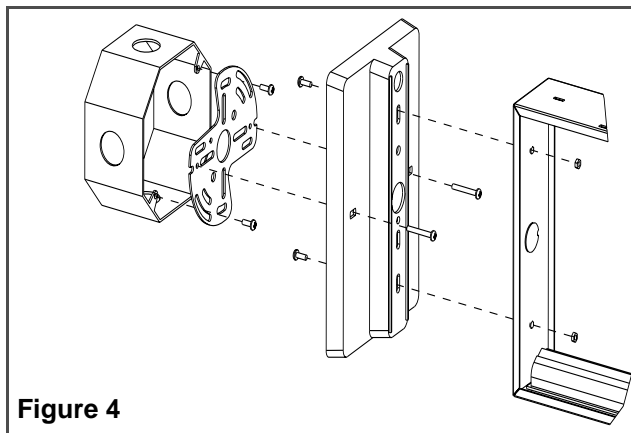

Figure 4
- d. Fasten the canopy to the exit using #8-32 x 3/8" screws and kep nuts provided (See Fig. 4)